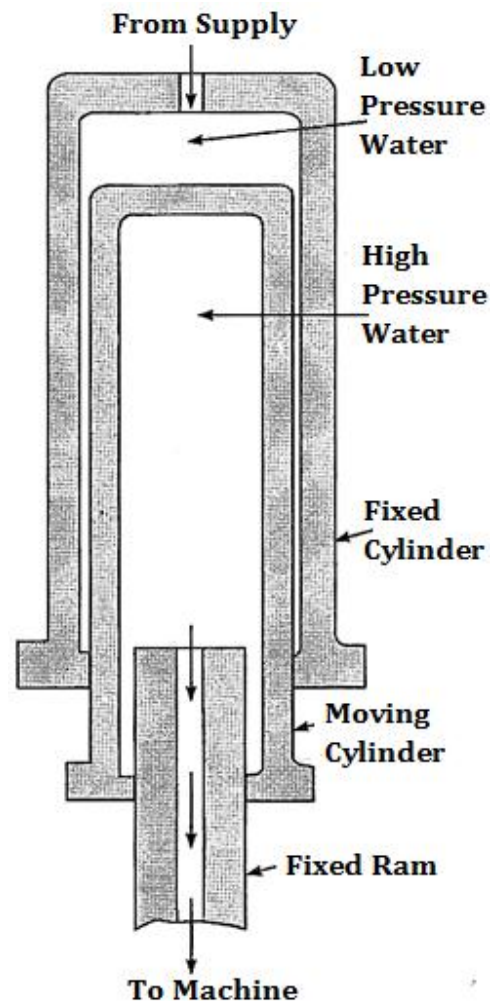

Fig.10.4 –Hydraulic Intensifier
- ▶ A hydraulic intensifier consists of a fixed cylinder and the other moving cylinder. It also consists of a fixed ram. The sliding cylinder slides between a fixed ram and the fixed cylinder as shown in Fig.10.4.